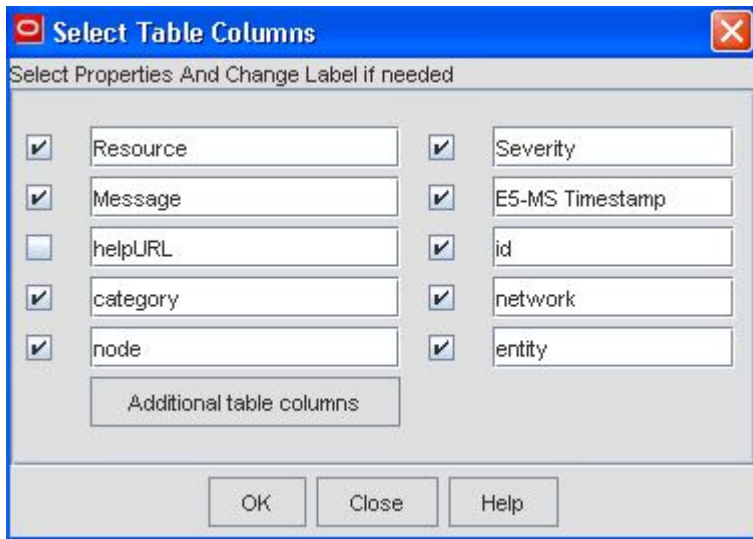
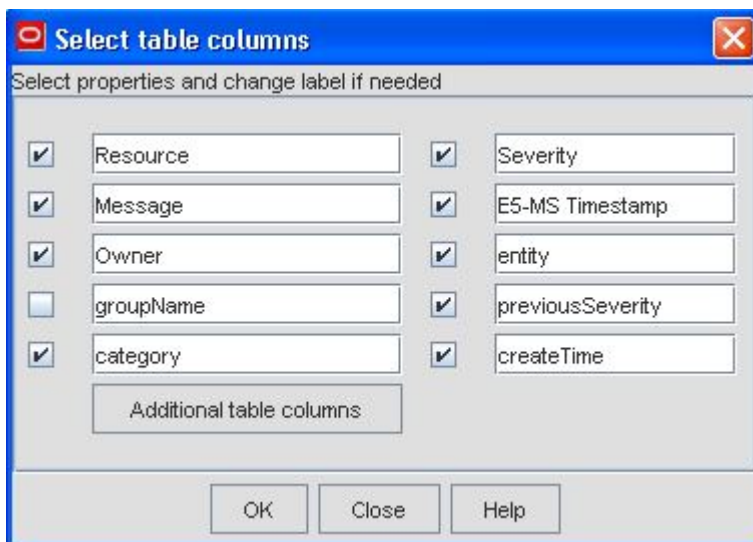

Figure 118: Selecting Table Columns for Network Events
Figure 119: Selecting Table Columns for Alarms
The **Select Table Columns** dialog box is displayed, as shown in Figure 118: Selecting Table Columns for Network Events and Figure 119: Selecting Table Columns for Alarms. The selected fields are the columns that can be seen in the resulting custom view.
3. To view additional table columns, click the **Additional table columns** button shown in *Figure 118: Selecting Table Columns for Network Events* and *Figure 119: Selecting Table Columns for Alarms*.